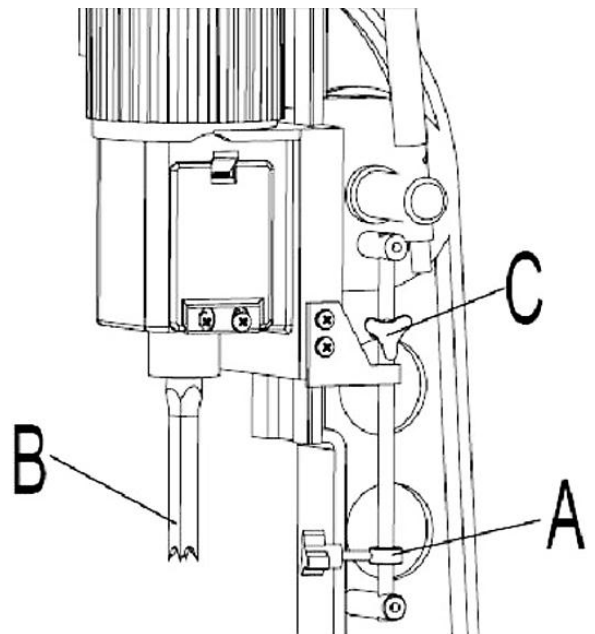

Fig 6
- A depth stop guide (A) Fig. 6, is provided to limit the depth of the chisel (B). To adjust the depth stop guide (A), loosen handle (C) and lower head until the chisel (B) is at the desired depth. Lower depth stop guide (A) until it is at the desired depth, tighten handle (C).